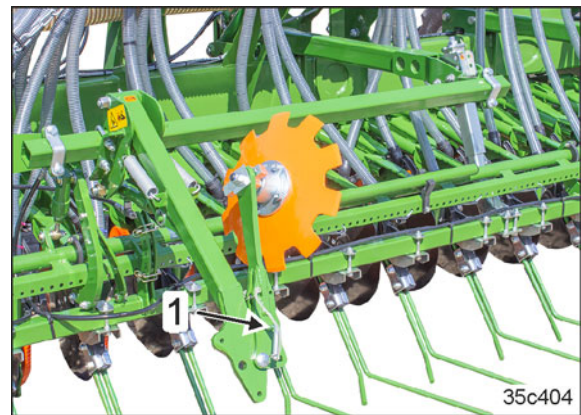

Fig. 243
6. Secure the connection by inserting the pin (Fig. 243/1) and locking it.